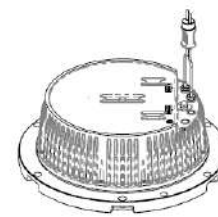

Figure 5-27
- Take out the inner cover, make the pin aim at the pin hole and connect the upper cover and inner cover with the screw (see Figure 5-27).